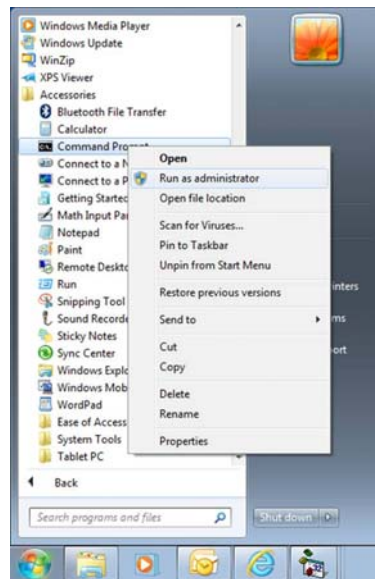

Figure 4 – Command Prompt
- Run the command Prompt as Administrator, see figure 4